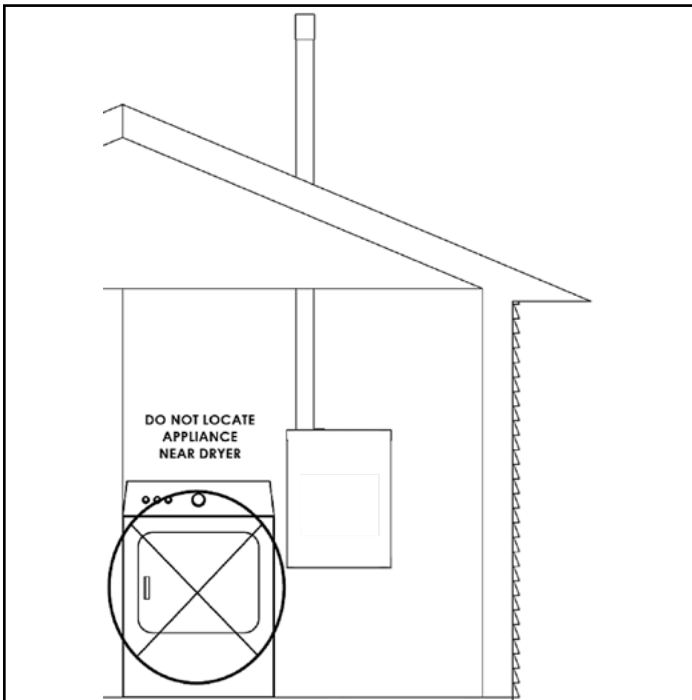

Figure 28 - Do Not Place Appliance Near Dryer
**Never obstruct the supply of combustion air to the water heater.** If the water heater is installed in areas where indoor air is contaminated (see Figure 28) it is imperative that the water heater be installed as direct vent so that all combustion air is taken directly from the outdoors into the water heater intake connection.